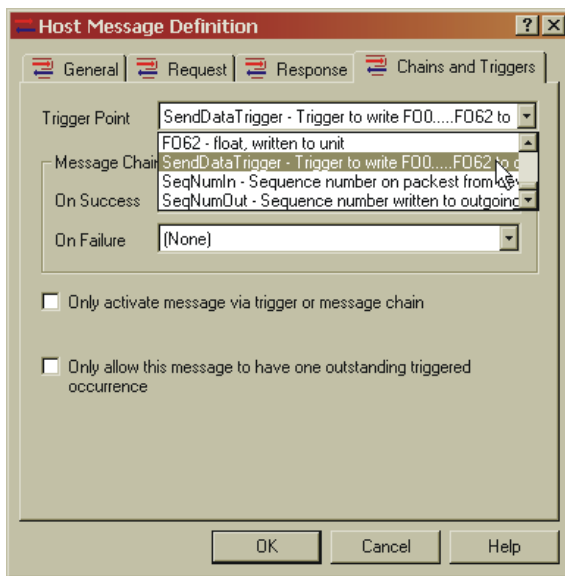

FIG. 223: CHAINS AND TRIGGERS PAGE
The Chains and Triggers page appears. (See Fig. 223)
- Step 19. Click on “SendDataTrigger - Trigger to write FO0...FO62 to” to select this Trigger Point (See Fig. 223)